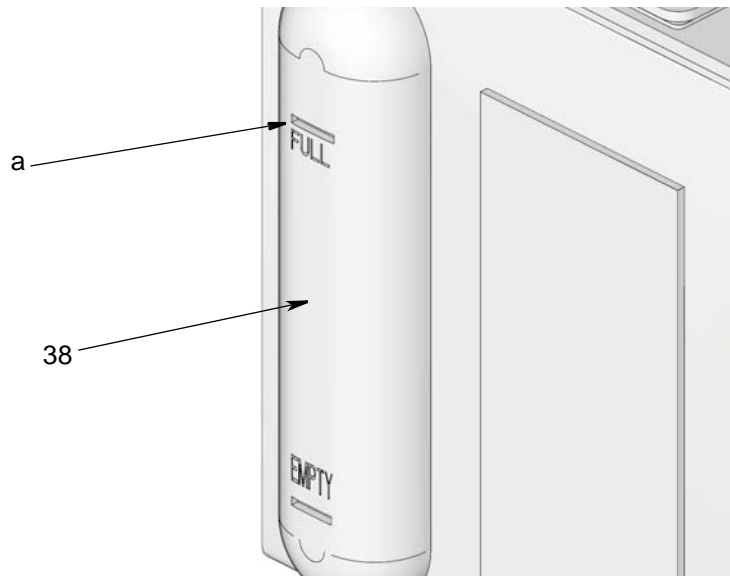

FIG. 2
Fill gear box to “full” line (a) on the sight glass (38) with SAE 30 to SAE 40 weight gear lube. Run the box normally and change gear lube after a 2 week run in period. (FIG. 2)